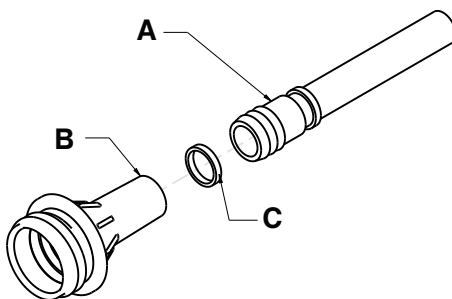

Figure 5: Reduction coupler fitting
5. Using the diagonal pliers, carefully cut the cable tie (C) closest to the foot end of the mattress cover that secures the LAL hose and reduction coupler fitting (A) to the valve body (B) (Figure 5 on page 18).
5. Using the diagonal pliers, carefully cut the cable tie (C) closest to the foot end of the mattress cover that secures the LAL hose and reduction coupler fitting (A) to the valve body (C) (Figure 5 on page 18).